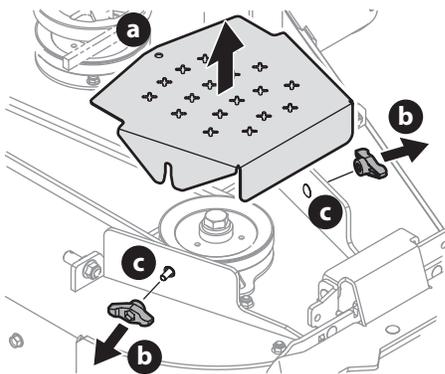

Figure 53
3. To remove the belt covers (a), remove the wing knobs (b) from the carriage screws (c) securing it to the deck (Figure 53).
4. The speed nut should hold the carriage screw (c) and tab bolt in place, if not re-install (Figure 53).